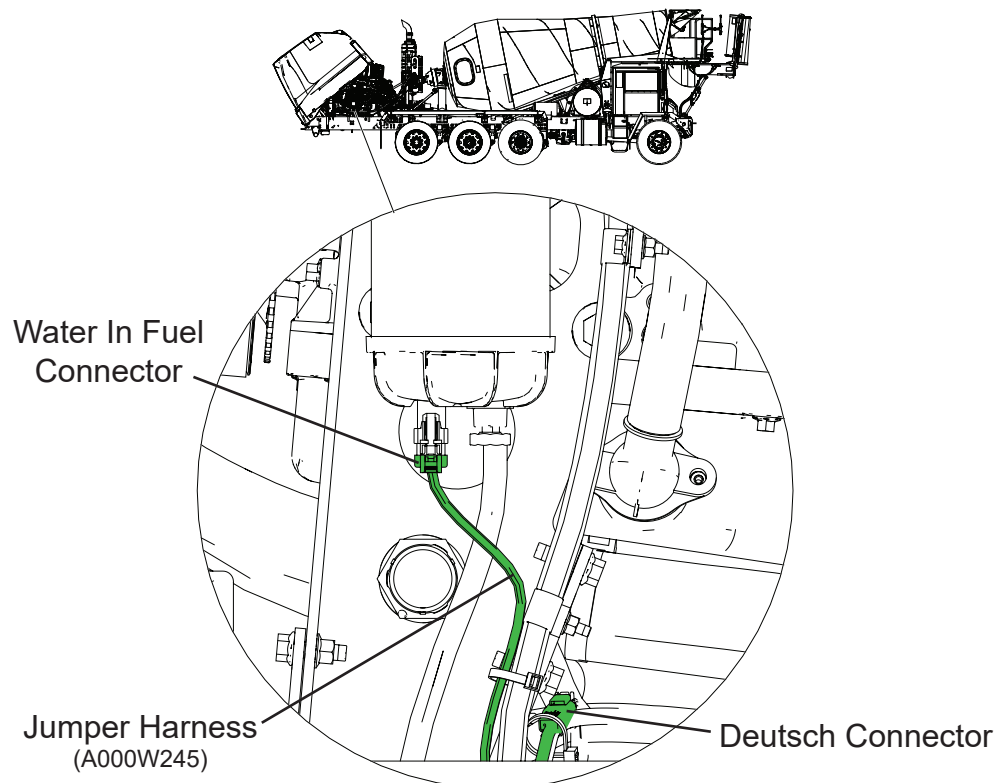

Figure 4
12. Connect Deutsch end of jumper harness (A000W245) to Deutsch connector installed in Step 10, see Figure 4.
13. Connect water in fuel filter connector into bottom of water in fuel filter, see Figure 4.